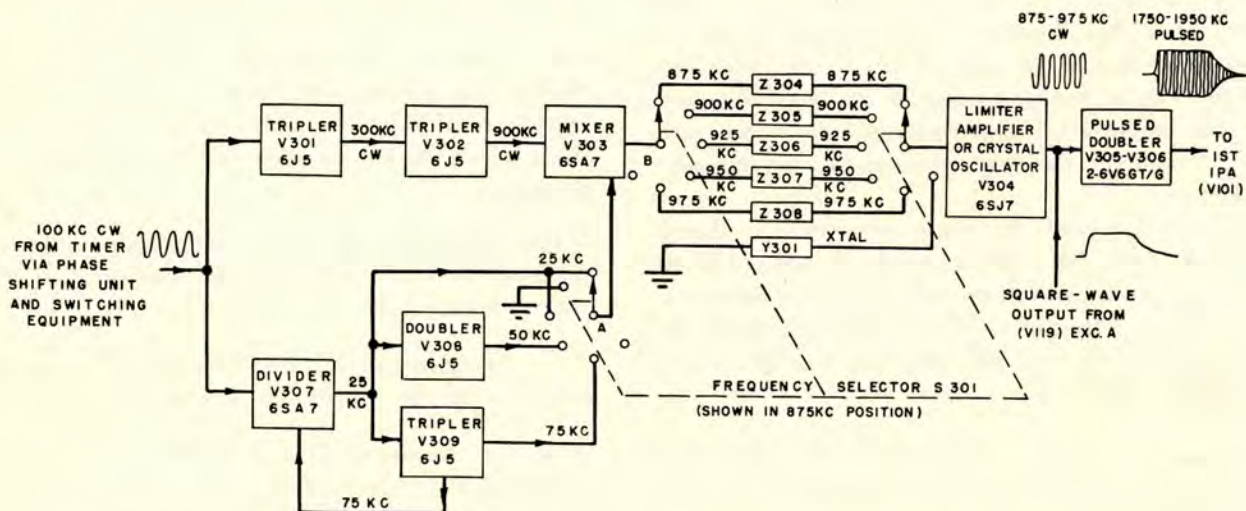

Figure 2-8. Block Diagram of Frequency Generator (Part of Exciter A)
b. BLOCK DIAGRAM. — The frequency generator, figure 2-8, develops the output signal by one of two methods. The first method is to use the 100-kc signal from a loran timer to develop a signal at one of the five transmitter operating frequencies. The sec-